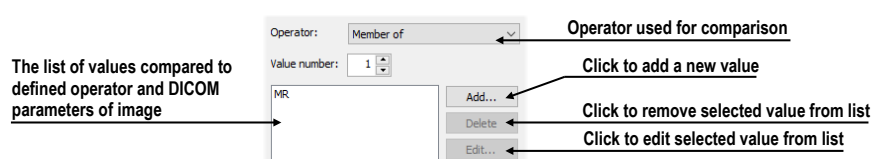

Figure 192 – DICOM criteria set dialog
4. Define the allowed values for the specified DICOM tag (see Figure 192):